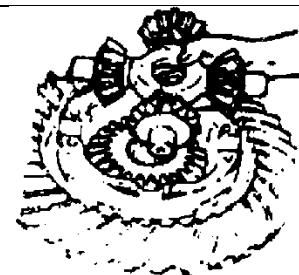

Figure 3-15
4) Removing the cross axis, then removing the anti-pad and epicyclic gear (Figure 3-15).